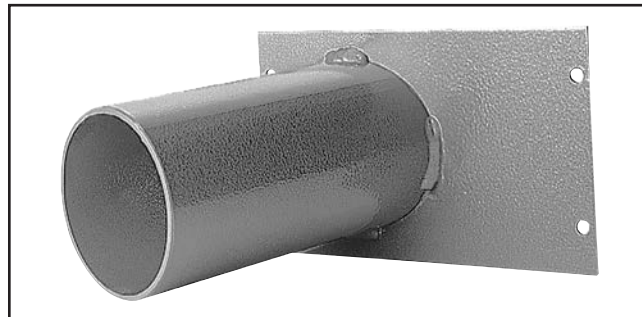

Figure 29. The Model G4839 dust hood. (Check with the current Grizzly catalog or www.grizzly.com to purchase.)
1. Connect the optional Model G4839 (see **Figure 29**) to the back of the fence assembly, then fit a 3" dust hose over the dust hood and secure in place with a hose clamp.